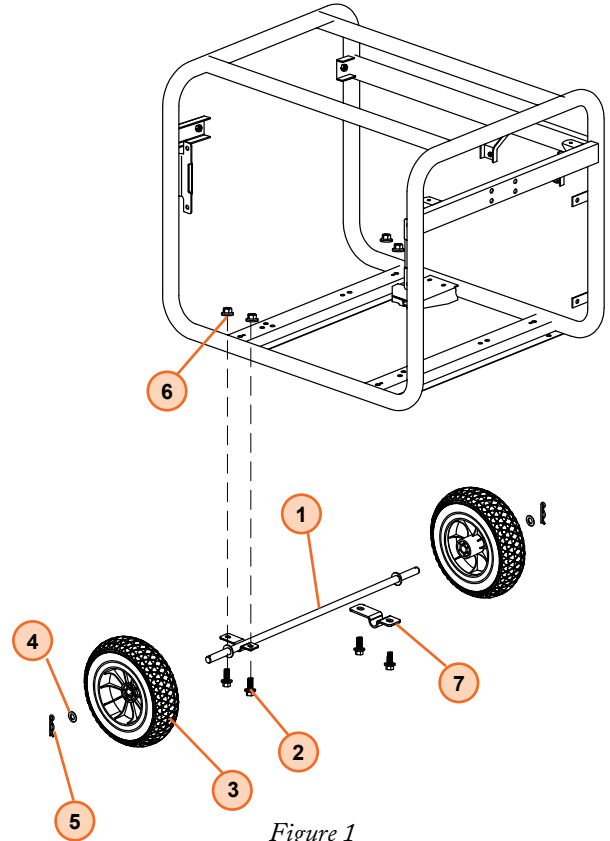
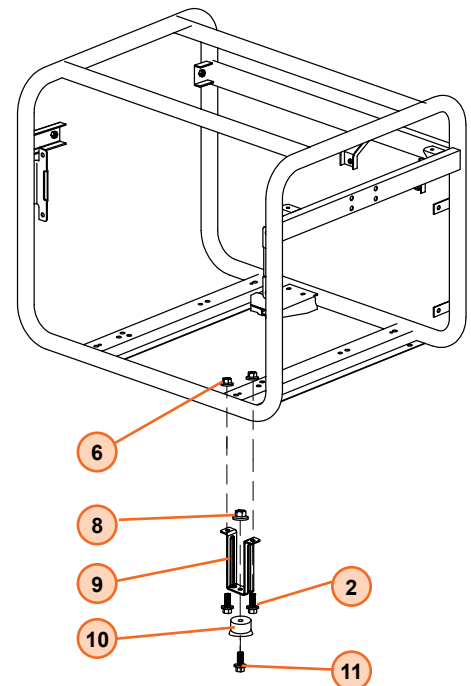

Figure 1
Figure 2
Step 1. Installing the wheels (see Figure 1):
1. Mount the axle (1) onto the frame and secure in place with two hex bolts (2) and two flange nuts (5).
2. Mount the axle bracket (7) on the frame with two hex bolts (2) and two flange nuts (5).
3. Mount the wheels (3) on to the axle and secure with a washer (4) and an r-clip (5) on each side.
Step 2. Installing the feet (see Figure 2):
1. Attach the rubber foot (10) onto the foot bracket (9) with a hex bolt (6) and a flange nut (5).
2. Align the holes in the frame with the holes in the foot support and secure with two hex bolts (2) and two flange nuts (6).